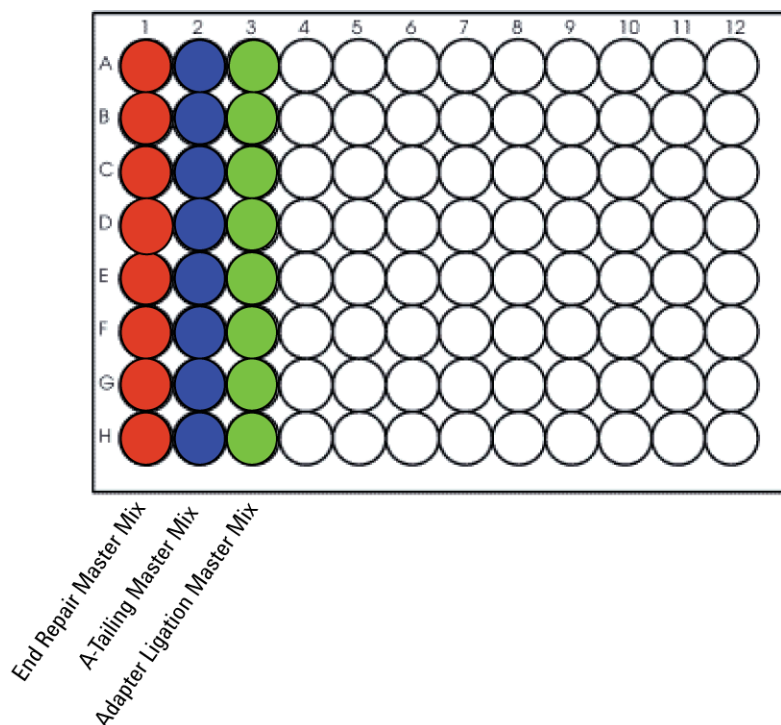

Figure 6 Configuration of the master mix source plate for LibraryPrep_XT_ILM_v1.5.1.rst
- 7 In a Nunc DeepWell plate, prepare the master mix source plate containing the master mixes prepared in steps 3 to 5. Add the volumes indicated in Table 19 of each master mix to all wells of the indicated column of the Nunc DeepWell plate. Keep the master mixes on ice during the aliquoting steps. The final configuration of the master mix source plate is shown in Figure 6.